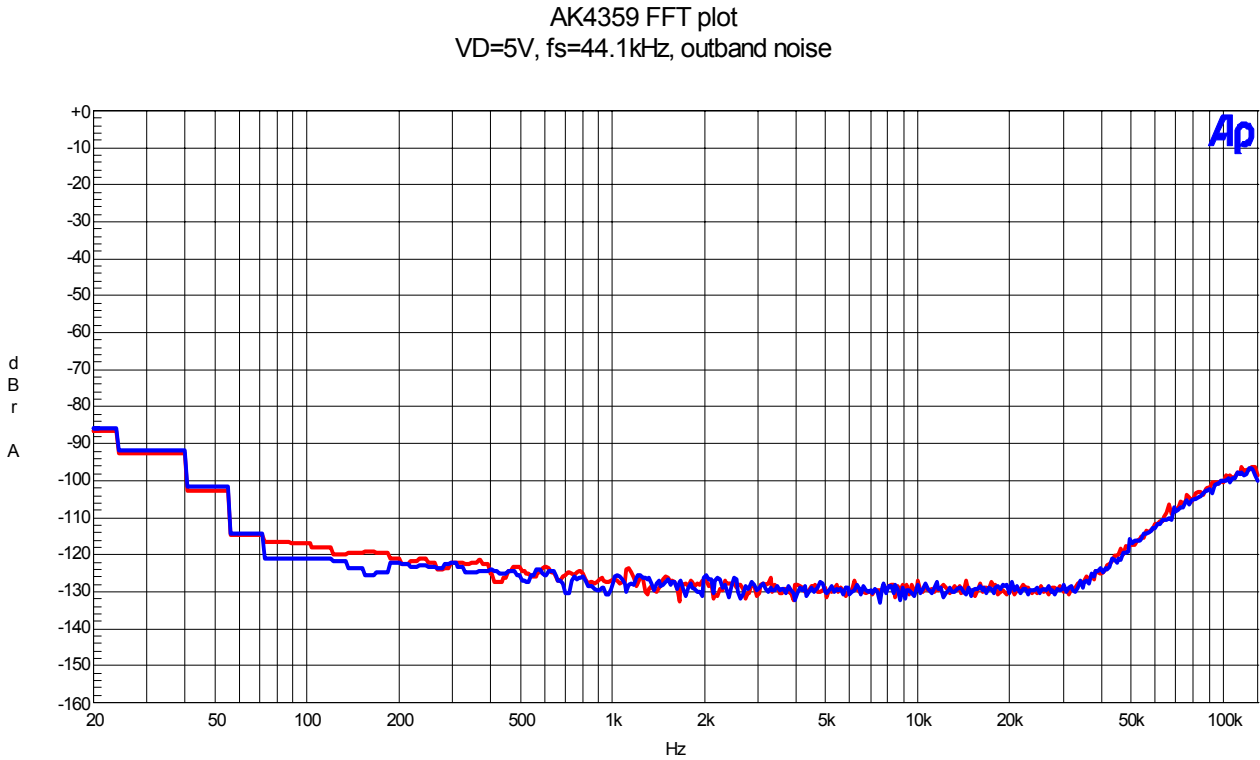

Figure 7. FFT (out-of-band noise)
- Figure 7. FFT (out-of-band noise)